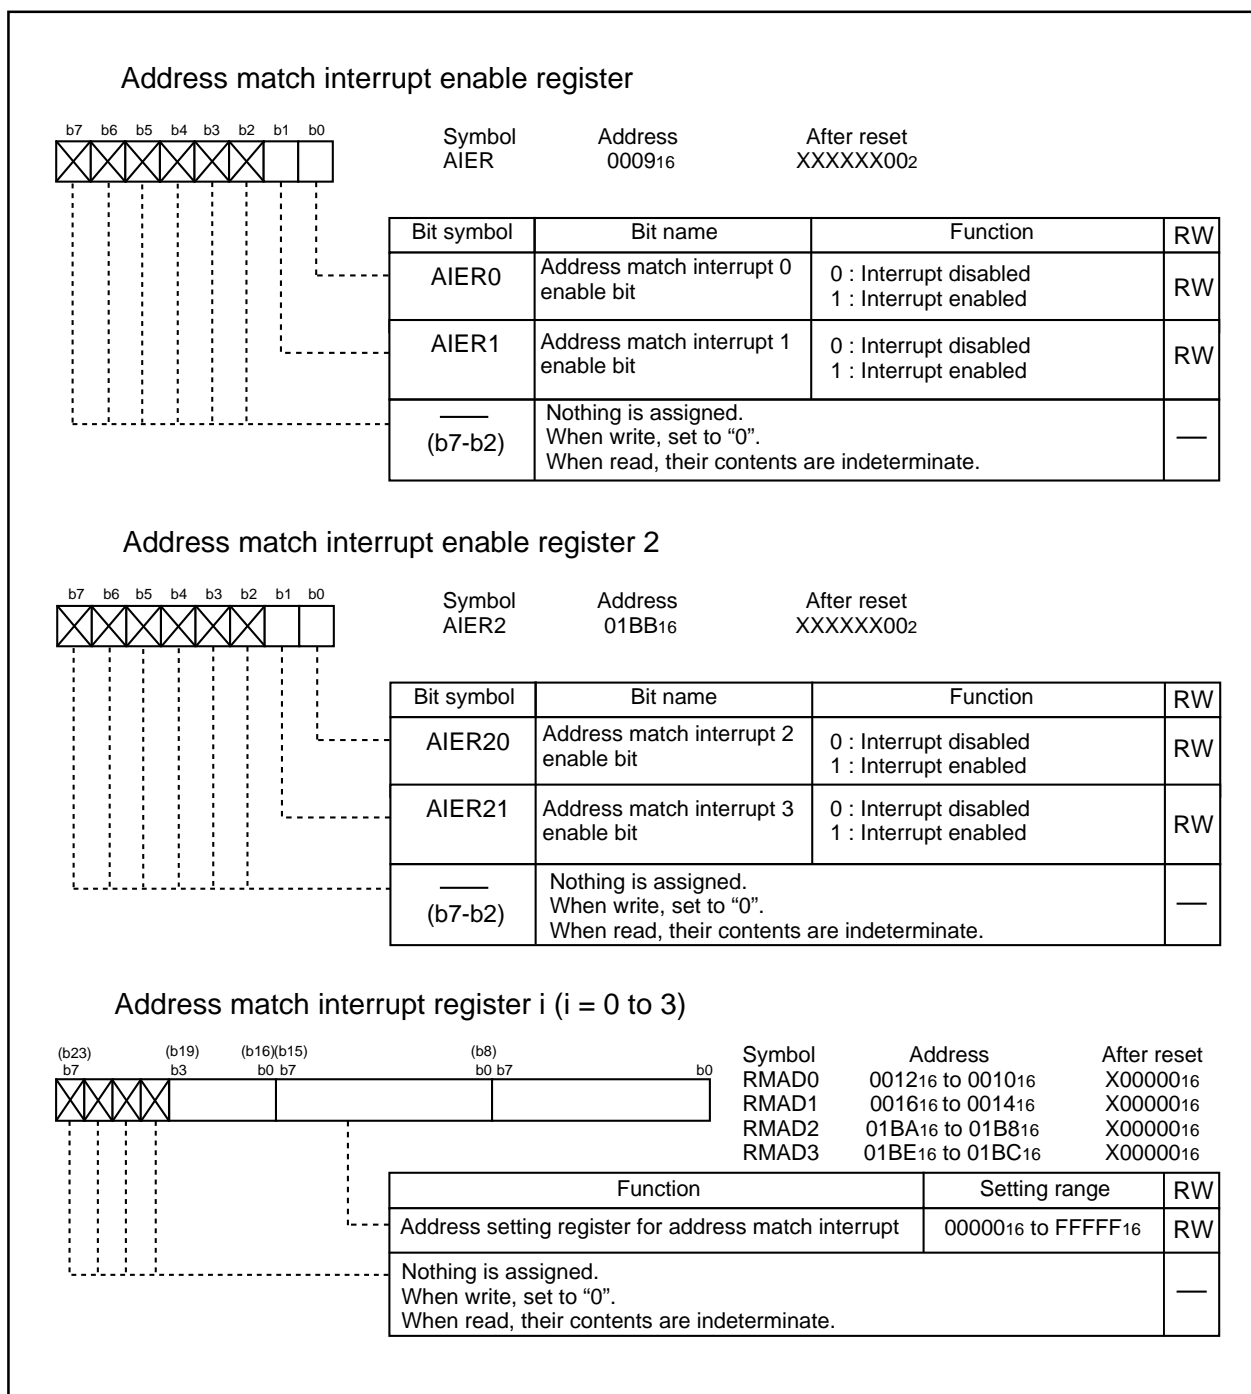

Figure 1.11.13. AIER Register, AIER2 Register and RMAD0 to RMAD3 Registers
Figure 1.11.13 shows the AIER, AIER2, and RMAD0 to RMAD3 registers.
- When the polarity of the  $\overline{\text{INT}}_0$  to  $\overline{\text{INT}}_5$  pins is changed, the IR bit is sometimes set to "1" (=interrupt requested). After changing the polarity, set the IR bit to "0" (=interrupt not requested). Figure 1.11.13 shows the procedure for changing the  $\overline{\text{INT}}$  interrupt generate factor.